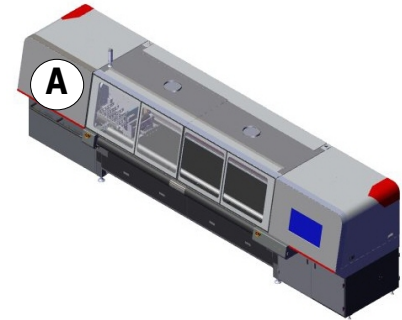

Figure 4-20 Printer Front View
2. Open the carriage compartment door, Figure 4-20 location (A).